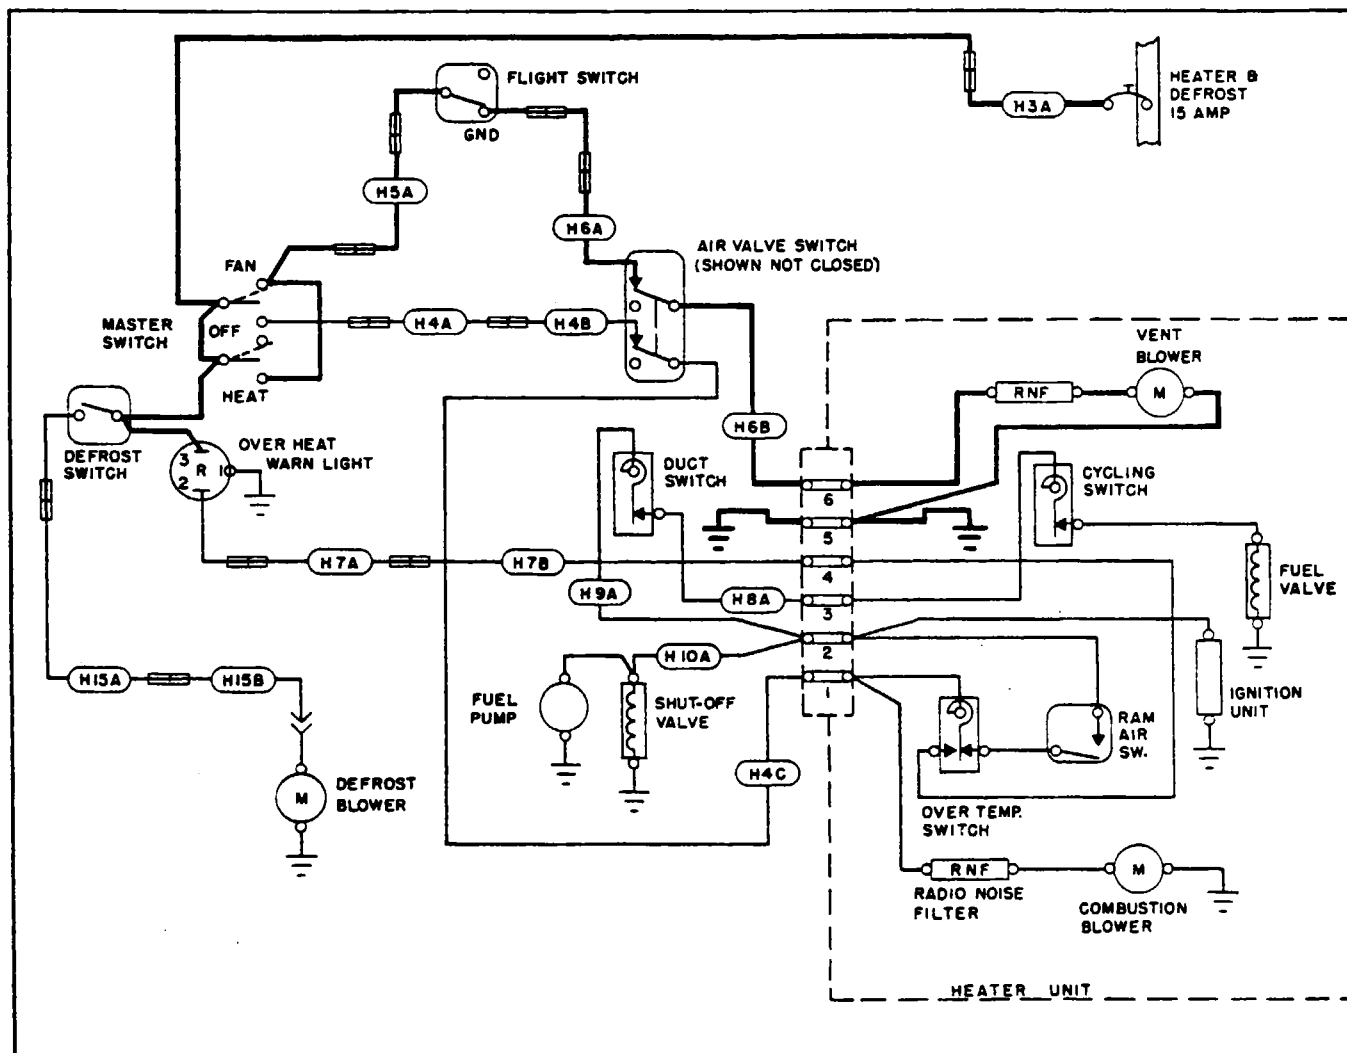

Figure 13-8. Primary Power Circuit
a. With the HEATER SWITCH in the FAN position, voltage (14-volts nominal) should be present at the following locations: (Refer to Figure 13-8.)